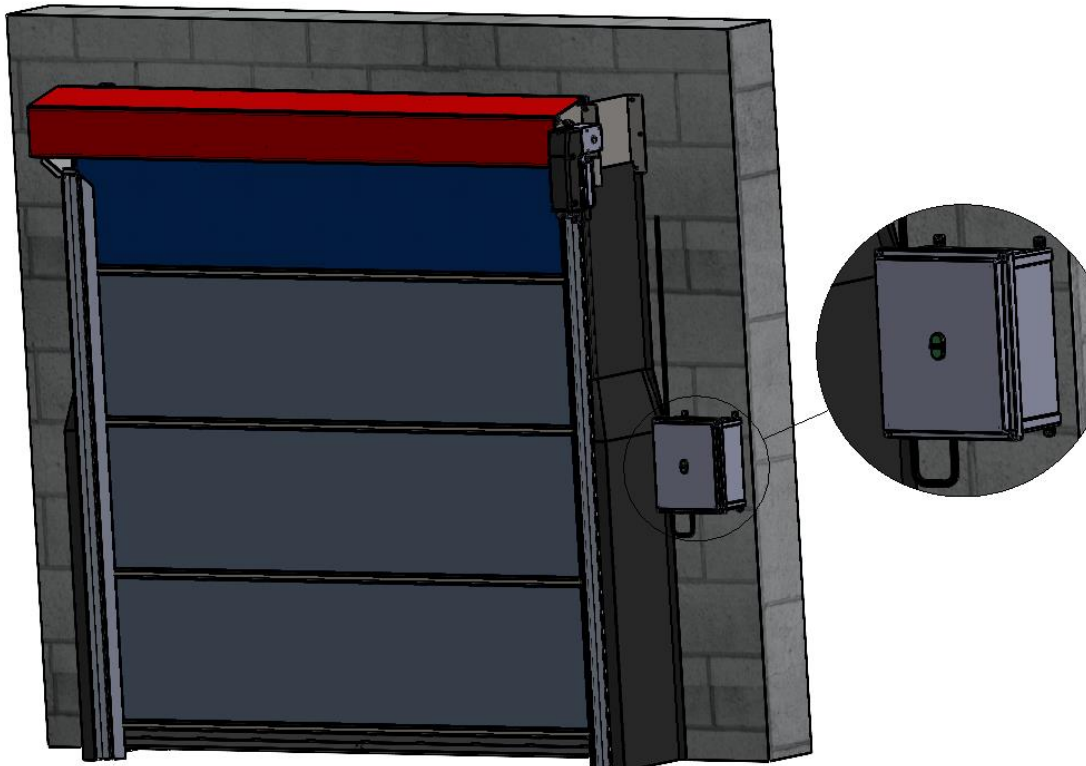

Figure 14 CONTROL BOX LOCATION
3. Have a qualified Electrician mount the Switch Control Box, route, and connect all wiring before applying power to the Door Assembly. (Figure 14 CONTROL BOX LOCATION)